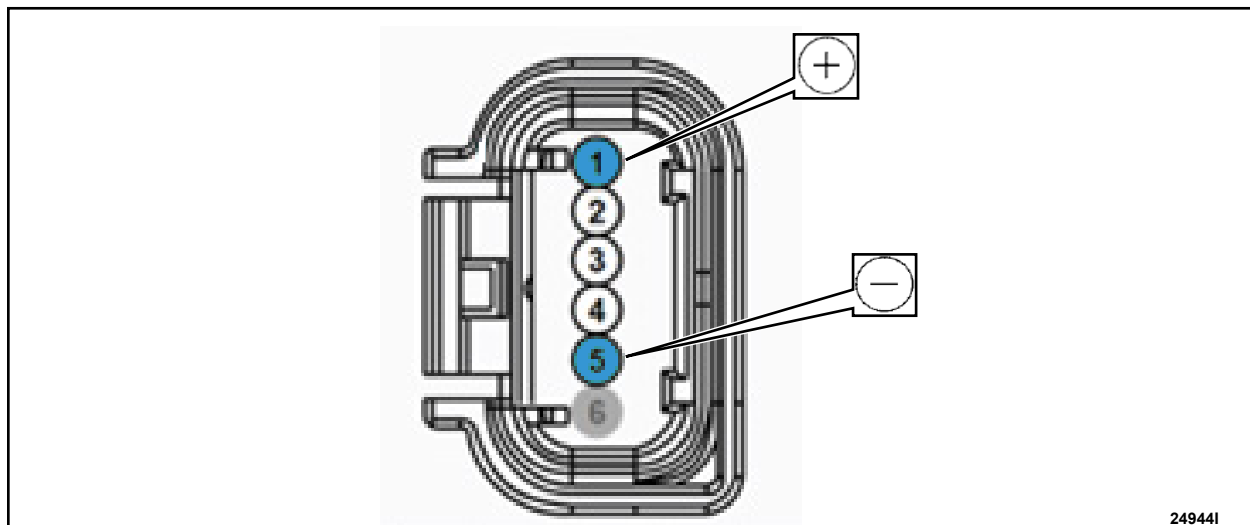

FIGURE 2
7. Check the ground to the rear parking aid camera / video camera connector. See Figure 2.